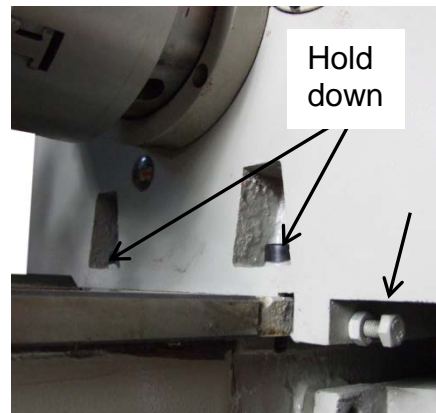

figure 52
- 5) To correct a difference in readings, loosen the four headstock hold-down bolts shown in (fig. 52) that hold the headstock to the bed. Adjust the headstock by backing off the jam nuts and re-positioning the adjusting bolts. Repeat steps 4 and 5 until the **A** and **B** dimensions are the same.